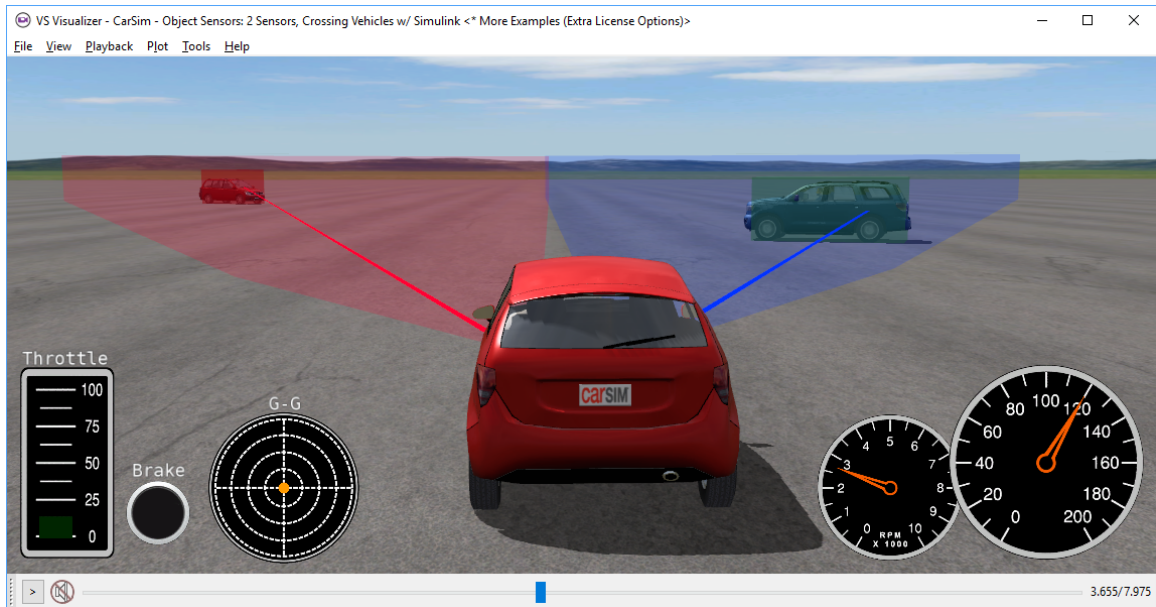

Figure 1. Example ADAS scenario in CarSim involving two sensors and two targets.
After locating the example, click the **Video** button to see the scenario (Figure 1). The vehicle has two sensor fields, and the vehicle brakes to avoid hitting one of the moving targets. Close VS Visualizer when you are through viewing the example.
The **Procedures** screen assembles a set of driver controls and other information. In this case, it also includes a road environment (1), motions for two target vehicles (2) and (3), and two sensors (4) and (5). It also includes a setting for VS Visualizer (6) to disable interpolation, to avoid artifacts with animations of detection vectors (the red and blue lines connecting to the closest points of the targets that are visible in Figure 1).